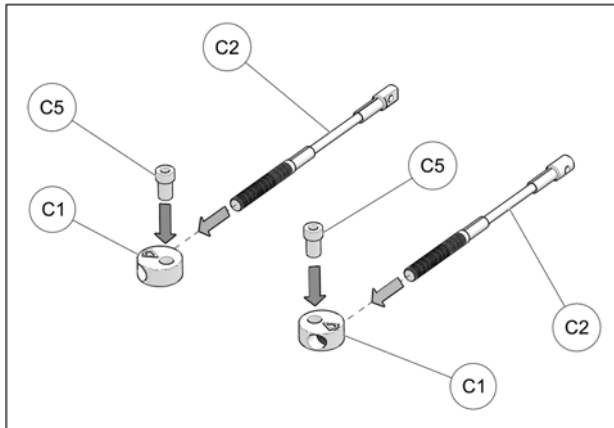

Fig. 17
10. Assemble steering limiter cables (C2), aluminium disks (C1) and step spacers (C5) as shown on Fig. 17